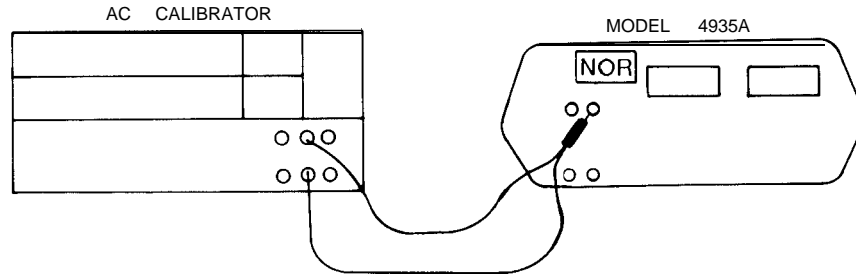

Figure 4-9. Hold Tone Dropout Detector Test
1. Connect equipment as shown in Figure 4-9.